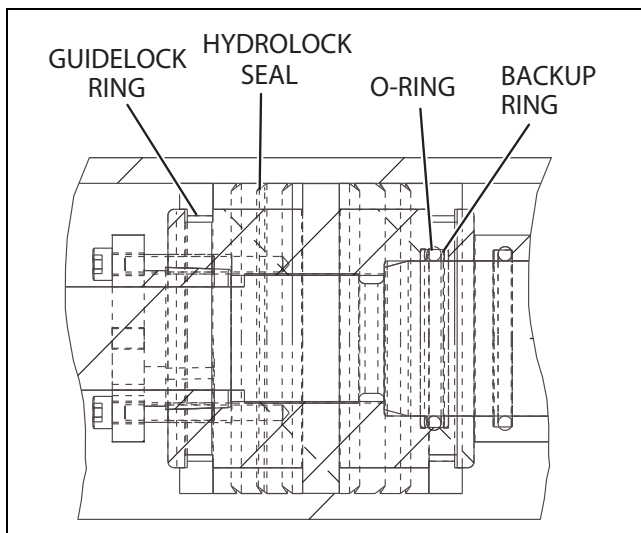

Figure 5-43. Piston Seal Kit Installation
18. Place new hydrolock seal and guidelock rings in the applicable outside diameter grooves of the cylinder piston. (See Figure 5-43., Piston Seal Kit Installation).